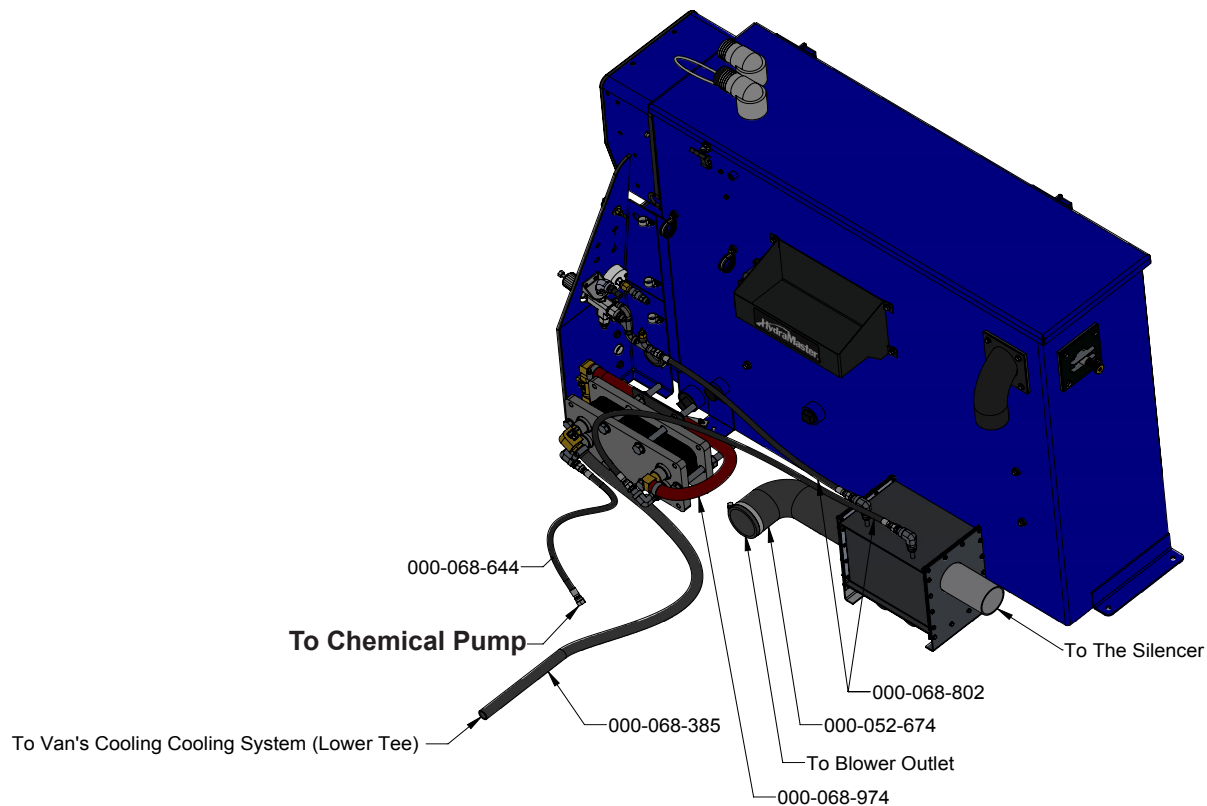

Figure 60. Connect the hoses to Heat Exchangers.
2. Connect the red 3/4" rubber hose (P/N: 000-068-974) on the Alfa Laval outlet to Coolant flow valve (Figure 60). Route the green stripe hose (P/N: 000-068-355) attached the brass lower coolant tee through the opening under the power pack's front spacer and create a rough 90 degree angle along the front of the heat exchanger. Align the hose with the Alfa Laval inlet and cut to fit, attach the hose with clamp. The remainder of the green stripe hose will be used on the recovery tank at a later step.
3. Connect the 5/16" Teflon® hoses with JIC ends (P/N: 000-068-644) attached to the water pump on the power pack to the heat exchangers inlet (Figure 60).
4. The last 5/16" Teflon® hose will be once the salsa heat exchanger is being installed (Figure 60).